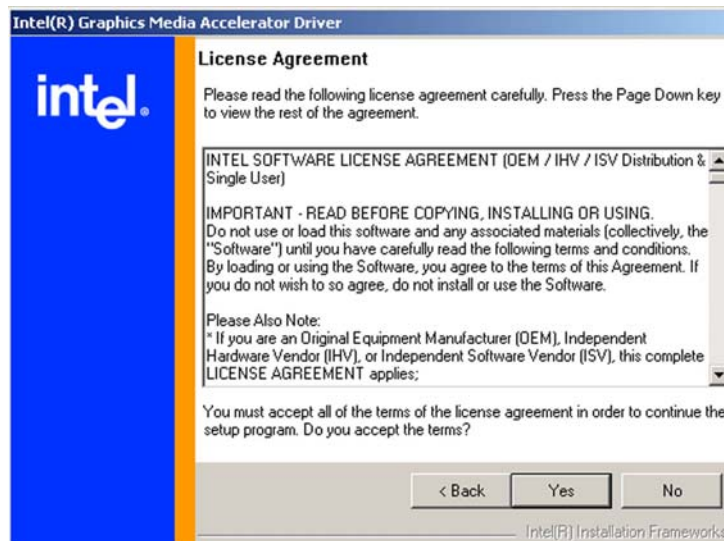

Figure 6-9: VGA Driver License Agreement
Step 6: A license agreement shown in **Figure 6-9** appears. Read through the license agreement.
the “Yes” button (**Figure 6-9**). The installation notice shown in **Figure 6-10** appears.